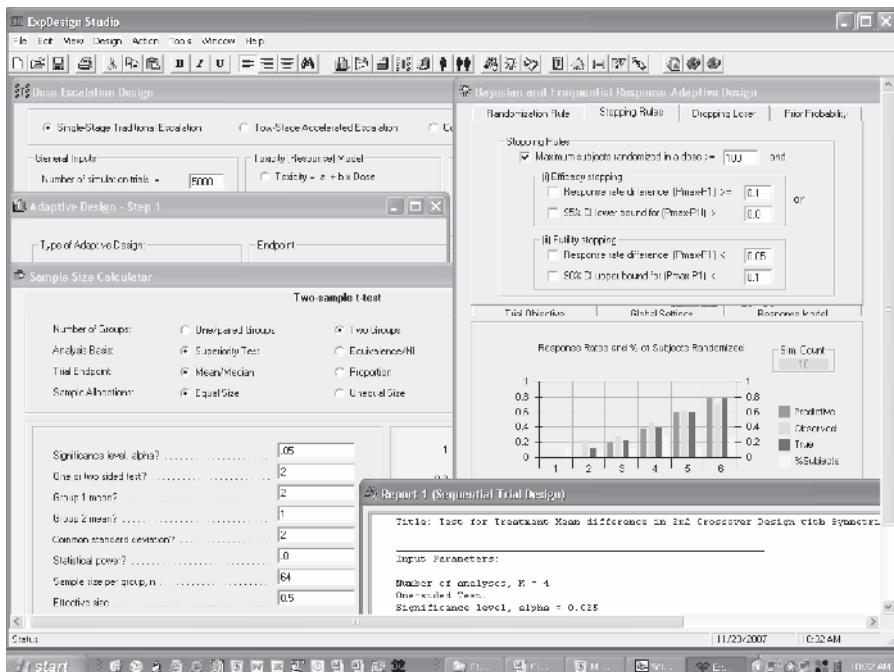

Figure 1.1 ExpDesign integrated environment.
ExpDesign Studio (ExpDesign) is an integrated environment for designing experiments or clinical trials. It is a powerful and user-friendly statistical software product that has seven integrated main components: classical design (CD), sequential design (SD), multistage design (MSD), dose-escalation design (DED), adaptive design (AD), adaptive trial monitoring (ATM), and dose-escalation trial monitoring (DTM) modules. In addition, the ExpDesign randomizor can generate random variates from a variety of distributions. The ExpDesign toolkit provides features for distributional calculation, confidence intervals, and function and data plotting (Figure 1.1).